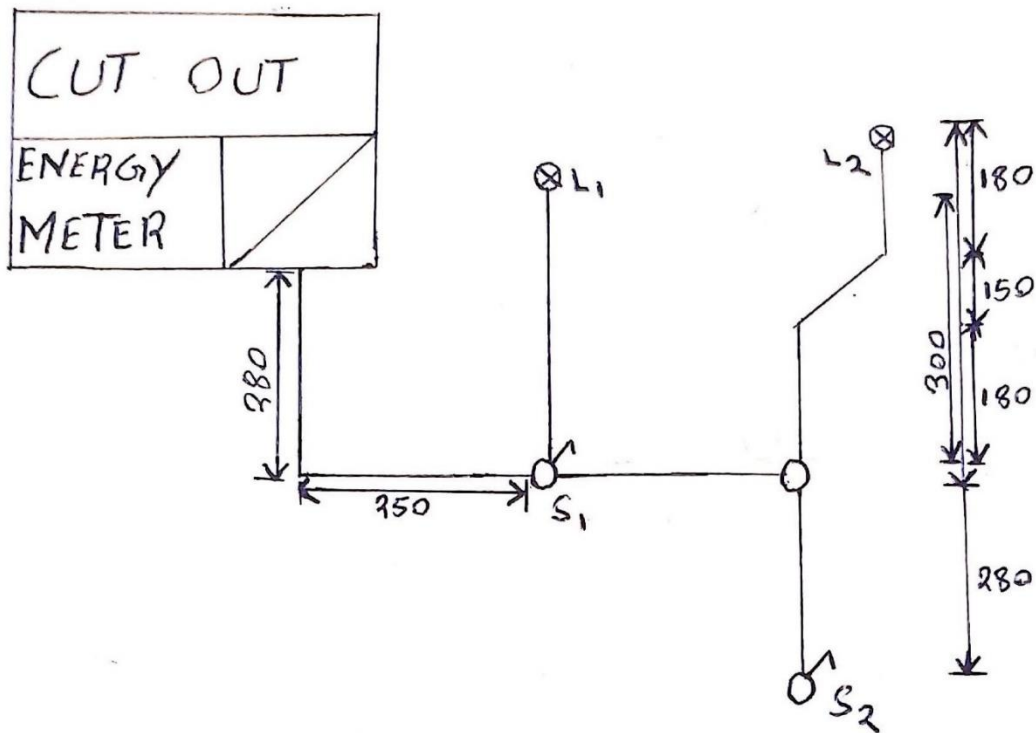

Figure 2
1. Figure 2 shows a layout diagram of final sub-circuits. Draw a wiring diagram such that:
2. Using PVC trunking system, install the circuit in Figure 2